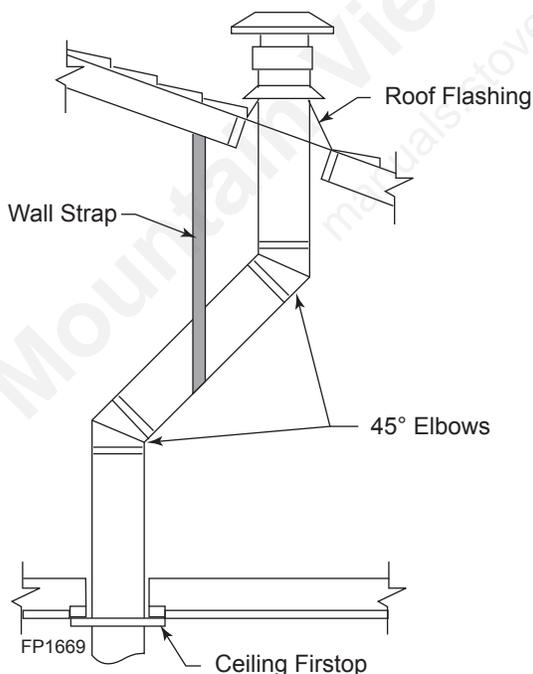

Figure 24 - Offset with Wall Strap and 45° Elbows
1. Determine the route your vertical venting will take. If ceiling joist, roof rafters or other framing will obstruct the venting system, consider an offset. Refer to Figure 24 to avoid cutting load bearing members.